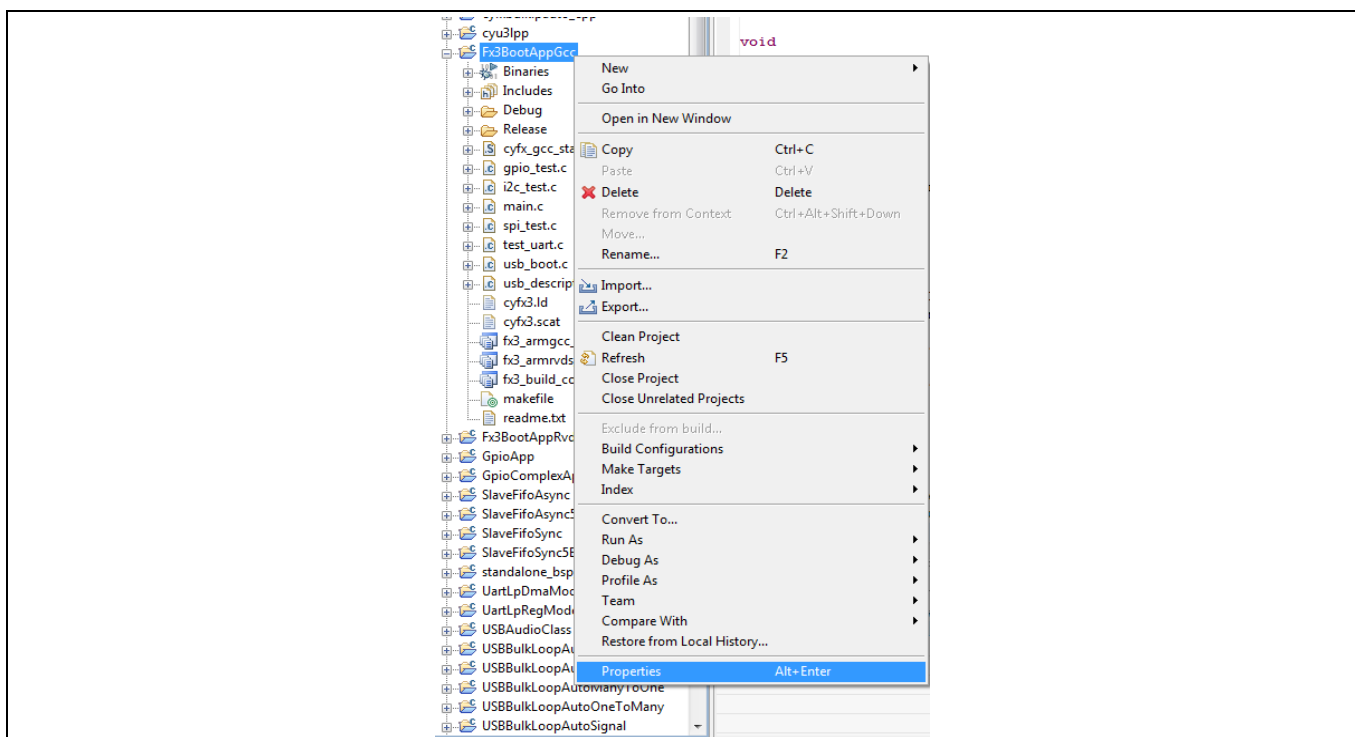
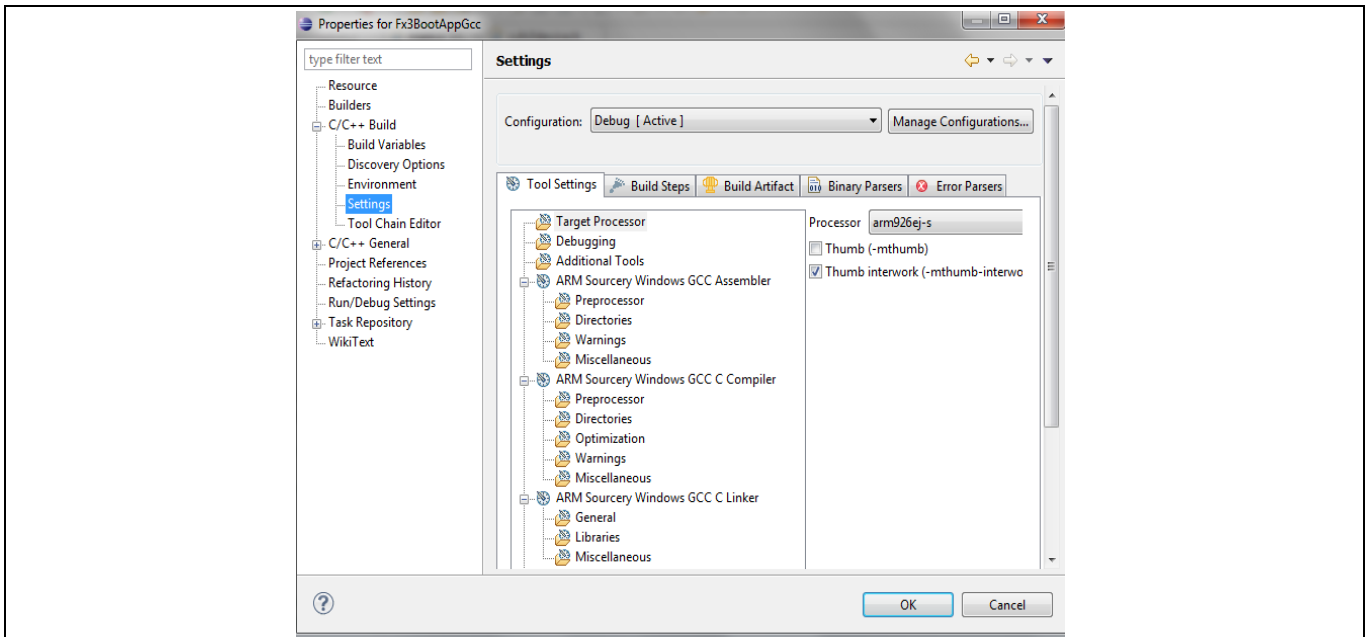

Figure 19 Right-click on project in Eclipse IDE
Figure 20 Properties of FX3 BootAppGcc
1. Build the firmware image in the Eclipse IDE as shown in Figure 19, Figure 20, and Figure 21.